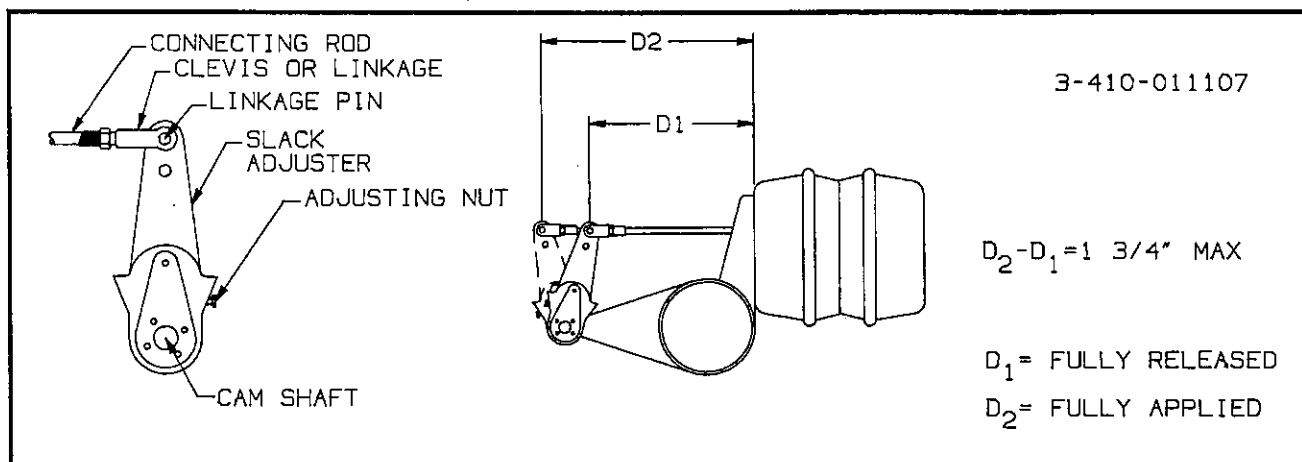

Figure 6-2 Checking Brake Adjustment
- Measure the distance (D1) from the face of the brake air chamber to the center of the slack adjuster linkage pin (see Figure 6-2).
- Place a 9/16" box end or socket wrench on the slack adjuster adjusting nut (see Figure 6-2), and push in on the locking sleeve.